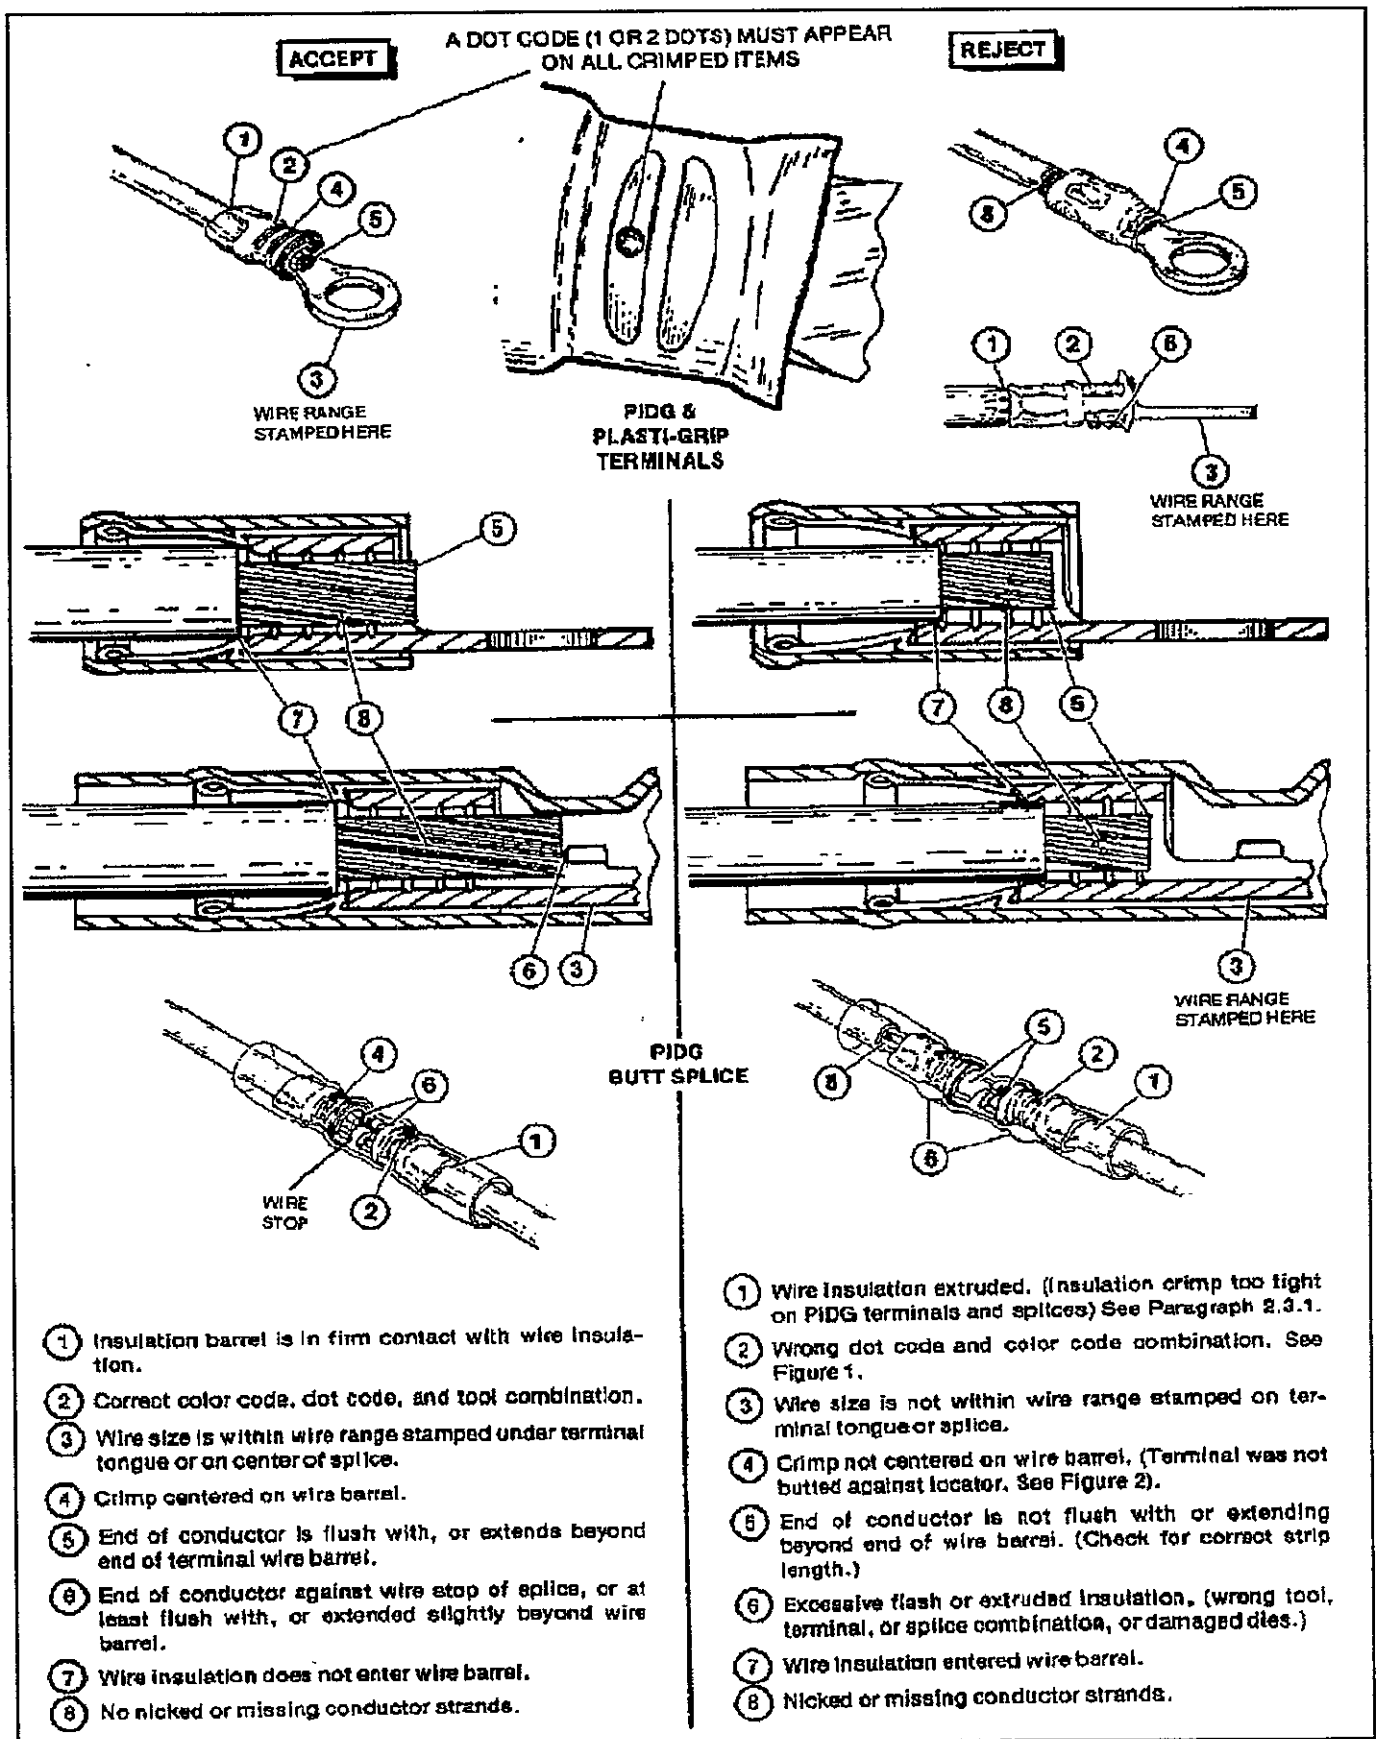

Fig 5
- Refer to Figure 5 or 6 for terminal crimp inspection procedure.
- Refer to Figure 5 for splice crimp inspection procedure.
- (a) Insert insulation crimp adjustment pin in No.3 position. See Figure 5.
Inspect crimped terminals, splices and spare wire caps by checking the features described in Figures 5 and 6. Use only the terminals, splices and caps that meet the conditions shown in the "ACCEPT" column.